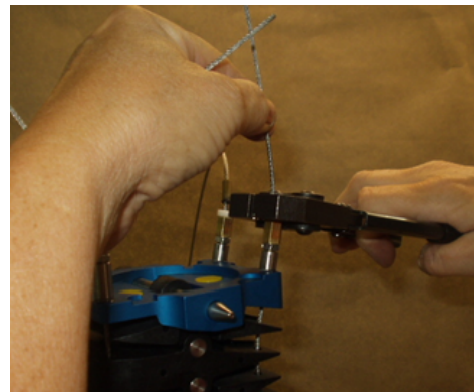

Figure 46 - Ferrule Crimping
12. Crimp ferrule onto cable somewhere within 4" / 100 mm from end of cable (Figure 46).